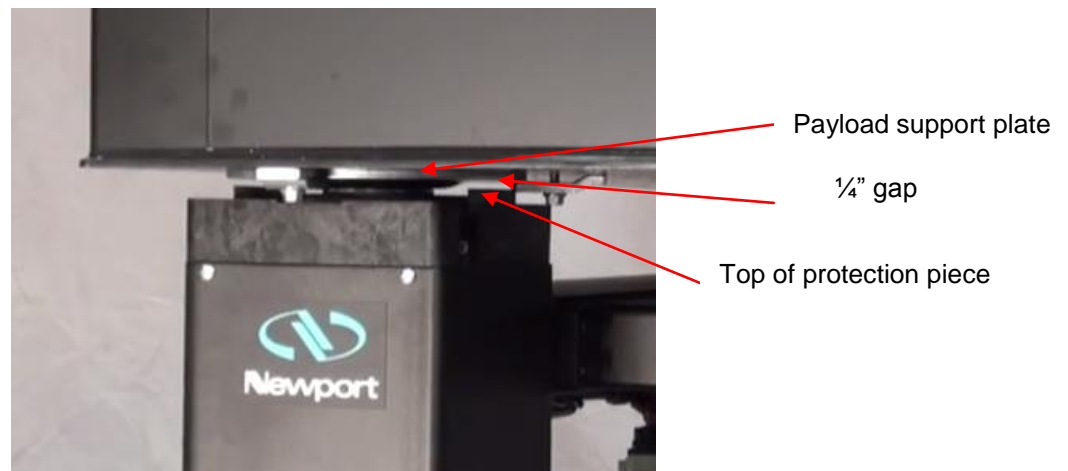

Figure 21
1. After the system floats, check the position of the payload support plate for all isolators (see Figure 21). The gap between the bottom of payload support plate and the top of the protection rubber piece should be about **1/4 inch nominal (6 mm)**.